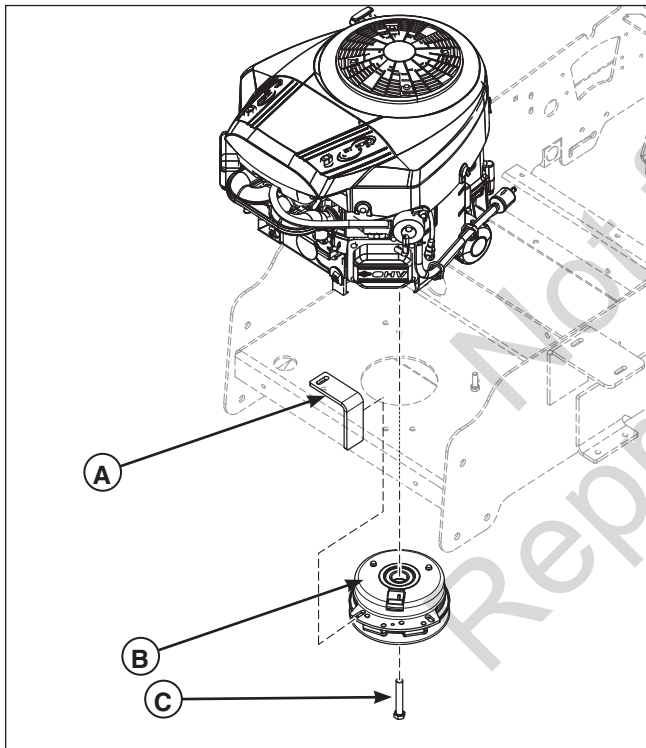

Figure 42. Removing the PTO Clutch
3. Loosen and remove the crankshaft bolt (C, Figure 42) and the PTO clutch (B) from the engine crankshaft.
NOTE: Make sure that the slot in the PTO clutch lines up with the PTO clutch mounting tab (A, Figure 42) underneath the engine deck.